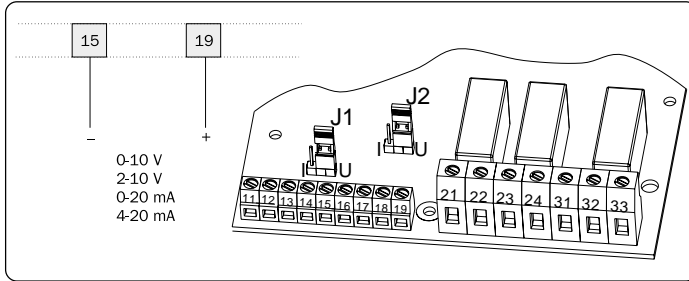

Fig. 27 Analog Output Connection
1. Connect the monitoring device to terminals 19 (+) and 15 (-). See Fig. 27.